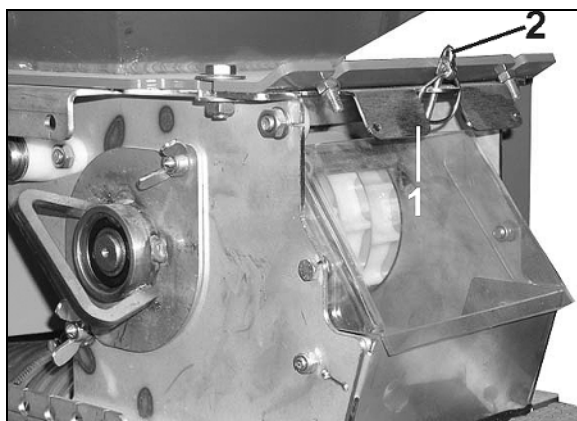

Fig. 56
1. Remove the lynch pin (Fig. 56/2) (only required for closing the filled seed hopper with the aid of the slide (Fig. 56/1).
Open all shutters (Fig. 56/1) and secure using lynch pins (Fig. 56/2).